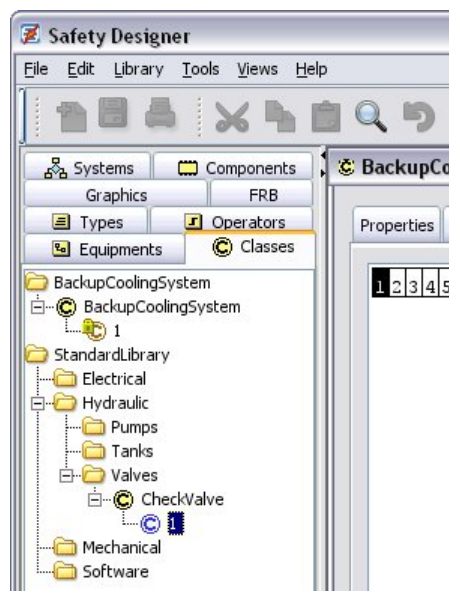

Figure 26: Selecting a model class
1. In the model class tree, click on the model class and version to instantiate to select it (Figure 26: Selecting a model class)